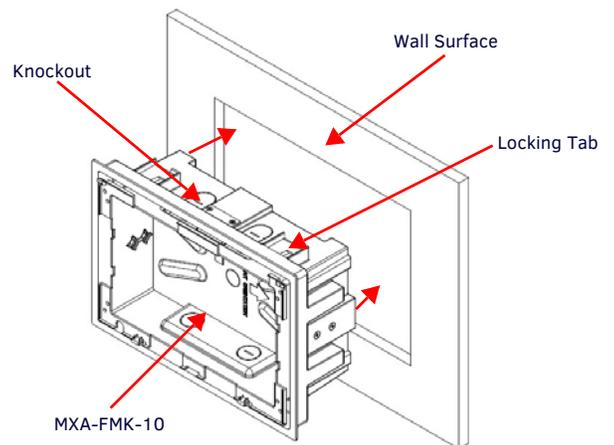

FIG. 3 INSERTING THE MXA-FMK-10 INTO THE WALL SURFACE (LANDSCAPE)
2. Remove the knockout at the top of the Flush Mount Kit (FIG. 3) and thread the incoming wiring through a knockout hole. The MXA-FMK-10 has two knockout holes, at the top of the device (Landscape) or to the left (Portrait).